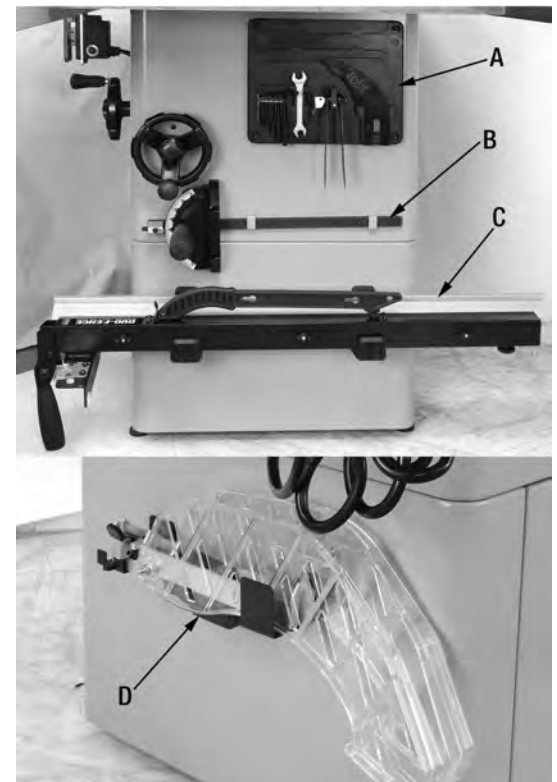

FIGURE 46
- Miscellaneous tools- Tools storage compartment (A) Fig.46.
- Miter gauge storage (B).
- Rip fence storage (C) (aluminum guide in horizontal position).
- Blade guard storage (D).